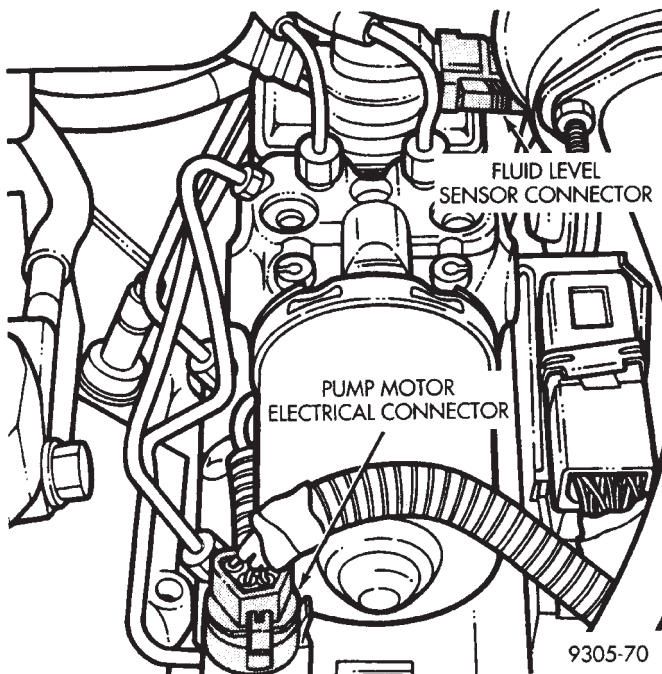

Fig. 2 (HCU) Electrical Connections
(3) Disconnect the pump motor and fluid level sensor electrical connectors from the (HCU) (Fig. 2).